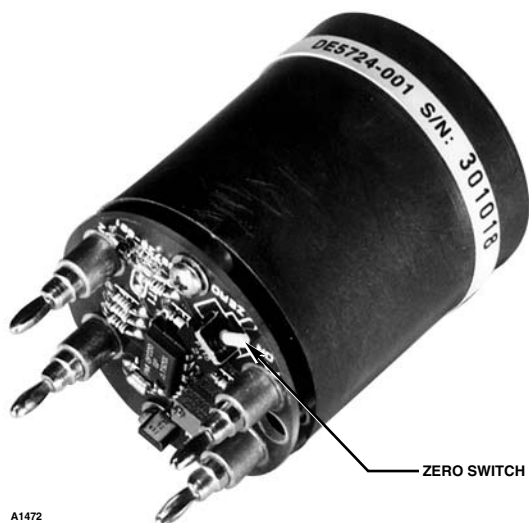

Figure 20—Electrochemical O₂ Sensor Cell
3. Place the zero switch located on the sensor cell in the "zero" position. See Figure 20 for switch location. This will simulate a "zero" or "no oxygen" condition necessary to establish a baseline output calibration level.